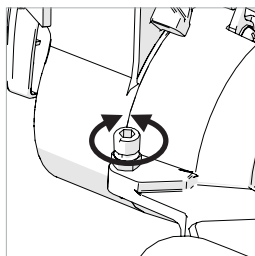

Fig. 25
- Use a Hex Key to adjust the adjustment screw in or out as required. **(Fig. 25)**